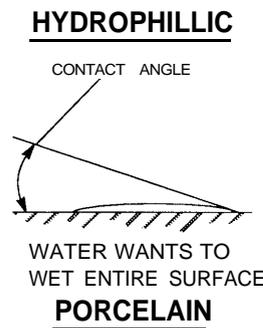
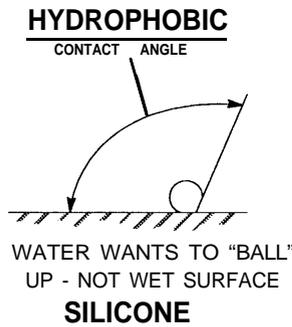
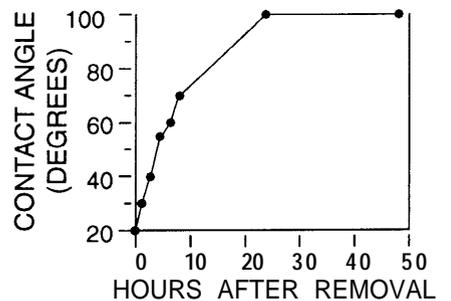

FIGURE 2
FIGURE 3
FIGURE 4
When airborne contaminants are deposited on a termination surface destructive leakage currents can be initiated when the surface becomes wet. Fog and drizzle are worse than rain. Rain tends to wash the pollutants off the termination while fog will wet the pollutants making the surface conductive to varying degrees promoting leakage current formation. This is most typical of hydrophillic surfaces typified by porcelain (Figure 2). The surface of 3M Quick Term II silicone insulator is hydrophobic which makes it less likely to erode or track because the surface does not wet readily (Figure 3). This either prevents or minimizes leakage current formation. On occasion severe environmental conditions can be sustained for long time periods and cause any polymeric surface to lose its hydrophobicity. Because of this, EPDM polymers tend to lose their hydrophobicity over time, and porcelain surfaces become increasingly hydrophillic with time, which will result in premature failure or flashover. However, the silicone surface will re-establish its hydrophobic surface within 24 hours (Figure 4). This unique ability of the Quick Term II silicone is a major factor to insure long service life.
- B. Fill lead sheath step using Scotch™ 23 tape and install terminal lug (*Figure 2*).
- C. Install Cold Shrink™ oil-barrier tube (*Figure 3*).
- D. Apply white restricting tape (*Figure 4*).